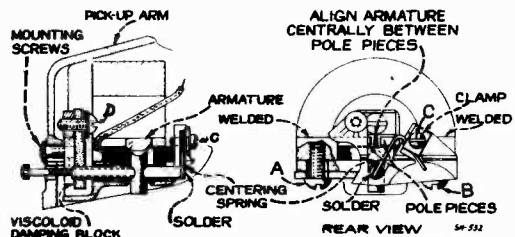
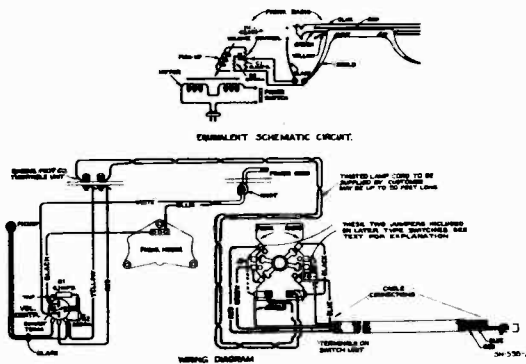

Figure 1—Details of Pickup
Figure 3—Wiring Diagram and Equivalent Schematic Circuit [Models R-93-A (1st and 2nd prod.) and R-94 Deluxe (1st prod.)]
2. (Record Player Switch Jumpers) — Some record player switches do not have jumpers J1 and J2 (see figure 3) attached. When the switch is so connected and turned to phonograph position, the voltage developed by the pickup is fed into the radio receiver through the green wire and shield, and at the same time the yellow wire is connected to shield. The jumpers J1 and J2 permit the yellow lead to kill radio by connection to shield. The jumpers should be removed where the yellow lead connects in such a position as to short bias batteries, etc. Check the switch to be used for the method chosen and use the jumpers accordingly. Correct jumper connections are indicated in "RCA Victor Receivers—Details of Lead Connections" of this booklet.
Refer to figure 1 showing the pickup inner structure. The armature is shown in its proper relation to the magnet pole pieces, i. e., exactly centered. Whenever this centering adjustment has been disturbed it will be necessary to remove the pickup mechanism from the tone arm by removing the needle holding screw and the two mounting screws from the front of the tone arm, holding the pickup assembly to keep it from dropping. Unsolder the two leads from the lugs on the terminal board at the rear of the pickup. Insert a small rod or nail into the armature needle hole and replace the needle holding screw, tightening it to hold the rod securely. If the armature clamping screws A and B have not been disturbed, screw or screws C should be loosened which will permit the armature to be moved from side to side, the rod acting as a lever to perform this operation. The proper adjustment is obtained when the armature is moved to the extreme position on each side (the movement being limited by
The cabinet of the Model R-93-A is similar to that of the Model R-93 Walnut finish. This model incorporates an acoustic compensated volume control, see figure 3. Model R-93-A (first production) and Model R-93-A (second production) differ only in the pickup construction, the essential difference being in the armature centering spring and spring clamps. Reference to pickup details, figures 1 and 2 will reveal the fact that the armature centering spring is respec-
tively "V" and "T" shaped for the Model R-93-A (first and second productions). Refer to "Model R-93 (third production)" and figures 1 and 2 for pickup adjustments.